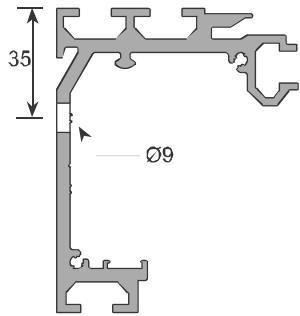
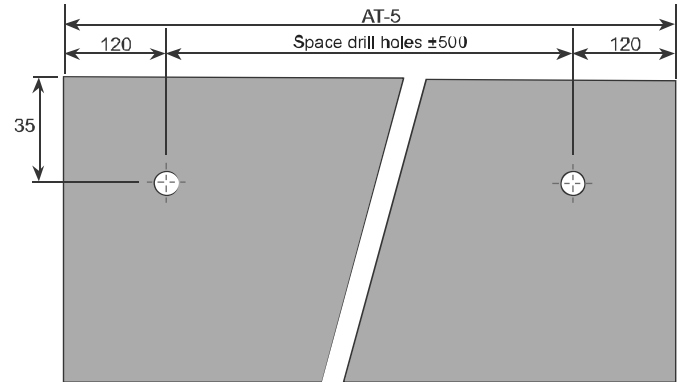

Fig. 3.1
Fig. 3.2
**i** Drill hole size Ø9 along main profile as shown in diagrams. Fig. 3.1 Fig. 3.2